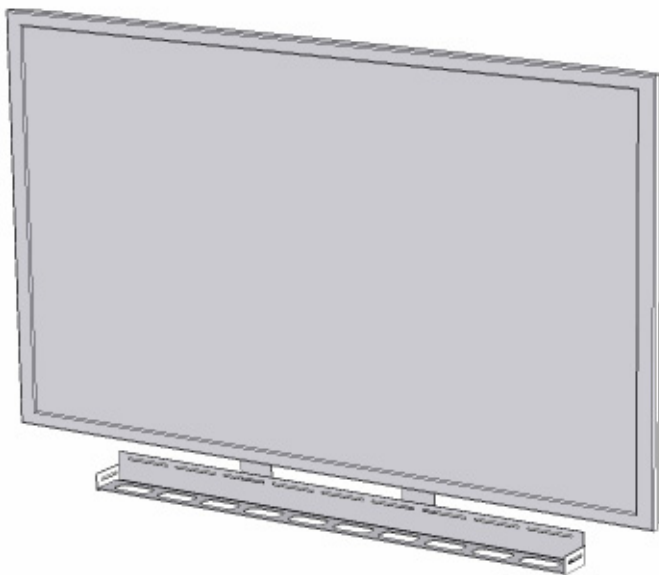

Figure 4
5. Insert the 4 x 3 mm Allen Head Bracket to Bracket Screws (supplied in your Hardware Kit) to loosely hold the Main Bracket in place, do not tighten them yet. Center the Main Bracket on the television set. Then tighten the Bracket to Bracket Screws. **See Figure 4.**